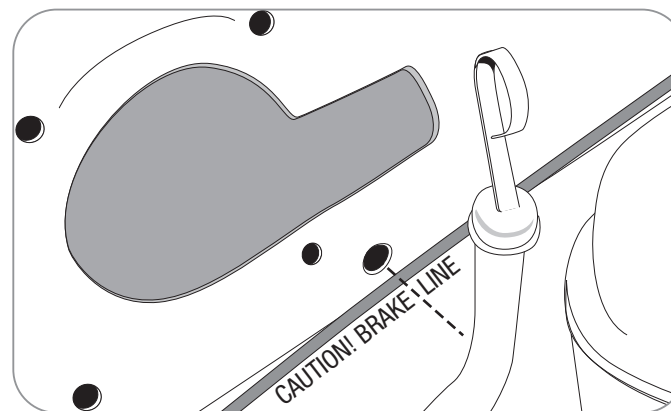

FIGURE 18
**CAUTION: On the engine side of the firewall there is a brake line. Be careful not drill through the brake line.** It may be necessary to carefully push this line out of the way, securing it a bit lower is usually all that is necessary (see figure 18).